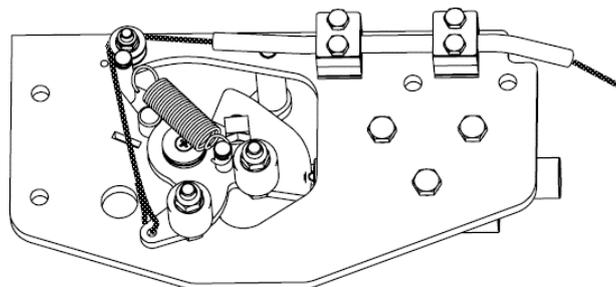

Figure 42. The film-cutter activation module – the open-cutter position
- A ball valve under the cylinder must be in the open position. Set the cutter-activation module in the position, as in **Fig. 42**